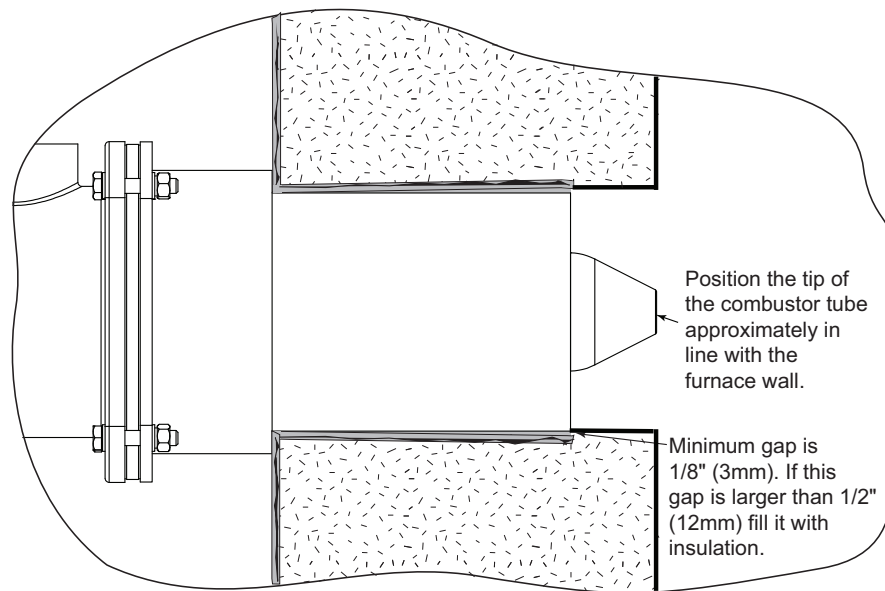

Figure 3.1 Burner Position Verification
6. Complete preparation inside the furnace. See Figure 3.1